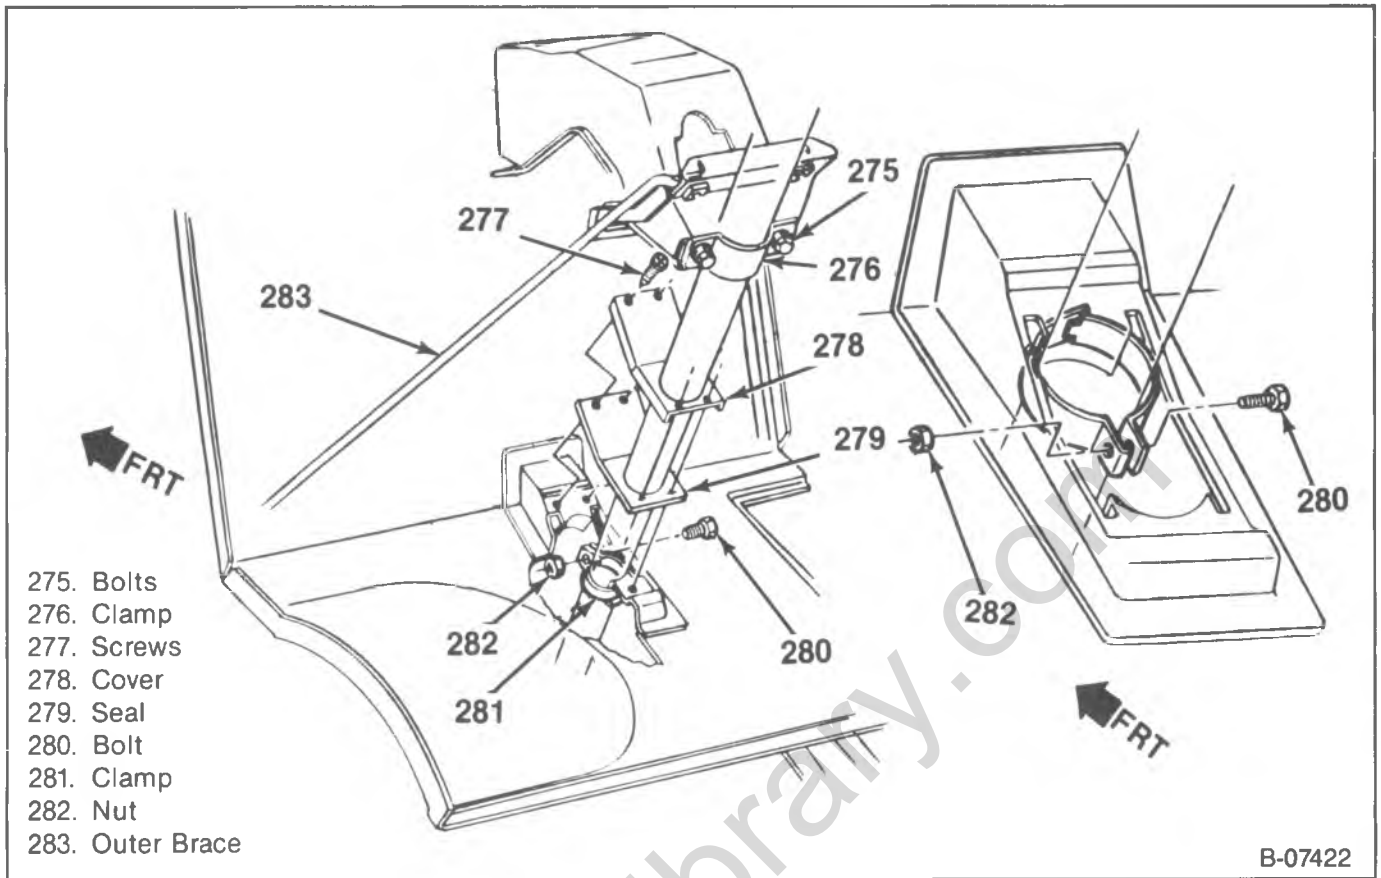

Figure 48—Steering Column Installation—P(42) Model
Remove or Disconnect (Figure 48)
↔ Install or Connect (Figure 48)
- Align the seal (279) and cover (278) with the floor and dash panel assembly.
3. Clamp (281), bolt (280) and nut (282). Position the clamp as shown in figure 48.